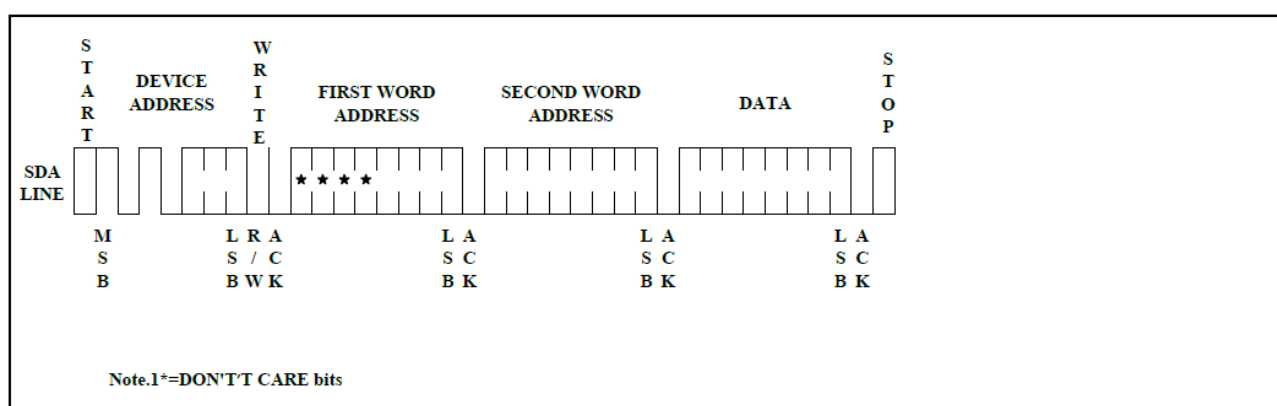

Figure4 Byte Write
**BYTE WRITE:** A write operation requires two 8-bit data word address following the device address word and acknowledgment. Upon receipt of every 8-bit address, the EEPROM will respond with a "0" and then send 8-bit data word. Following receipt of the 8-bit data word, the EEPROM will output a "0" and the master device, such as a microcontroller, must terminate the write sequence with a stop condition. At this time the EEPROM enters an internally timed write cycle,  $t_{WR}$ , in order to save the data in the nonvolatile memory. All inputs are disabled during this write cycle and the EEPROM will not respond until the write is complete(see Figure 4).